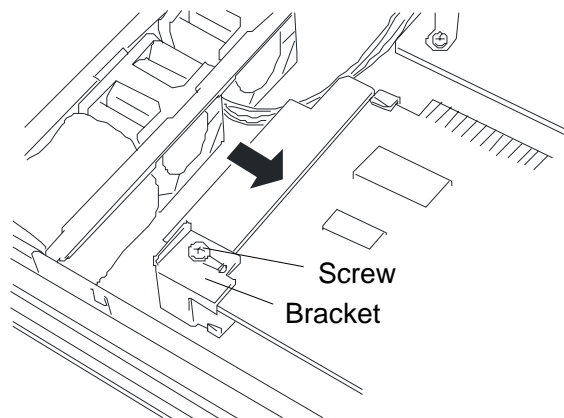

Figure 4-31. Adjusting the Card Bracket to Secure long PCI Boards.
- 10.** If installing a long PCI board, slide the bracket towards the rear of the module to fasten the other edge of the board. Tighten the bracket screw. See Figure 4-31.